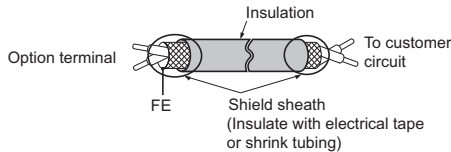
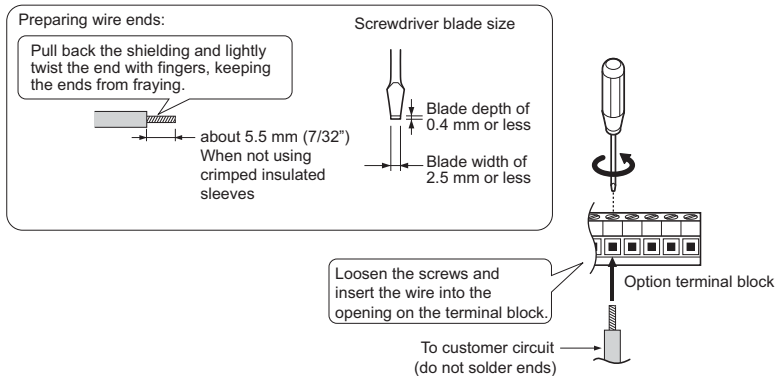

Figure 6 Preparing Ends of Shielded Cable
Figure 7 Preparing and Connecting Cable Wiring
2. There are two screw holes on the unit for use as ground terminals (J). When connecting three options, two ground wires will need to share the same unit ground terminal.
4. Prepare and connect the wire ends as shown in **Figure 6** and **Figure 7**. Refer to **Wire Gauges and Tightening Torques on page 18** to confirm that the proper tightening torque is applied to each terminal. Take particular precaution to ensure that each wire is properly connected and wire insulation is not accidentally pinched into electrical terminals.